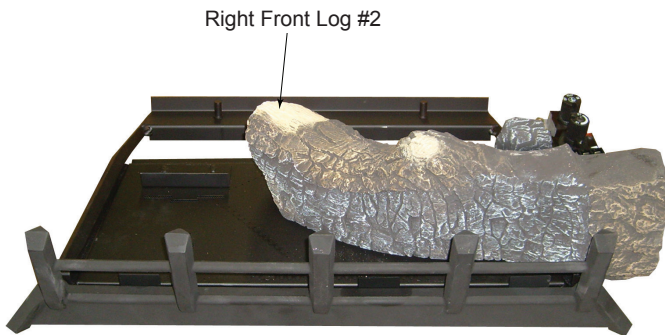

Figure 30
2. Place front right log (#2) on right pin located on burner and right grate bar. *Figure 30*. After placing front right log, ensure log is fully upright and tilting towards the back of the burner.
6. Place mid right log (#6) on bottom rear log (#1) and front bottom right log (#4) by placing notch on bottom of log on locating block on log #1. Place front of log in notch of log #4. *Figure 30*